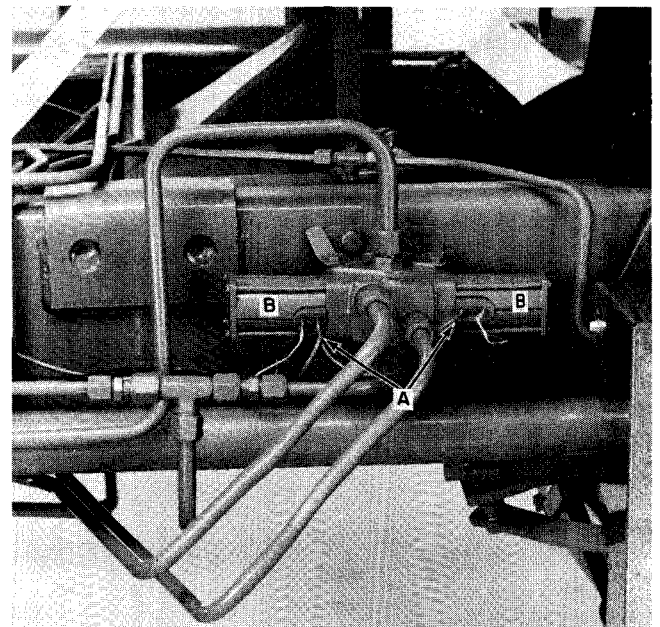

FIGURE 2-6
11. Replace the ground wire, A, Figure 2-6, with the new wire assembly. Route the wire along the wire harness to the right frame channel. Connect the #9619981 wire assembly to that wire and route the wire into the right console. Fasten the wires to the harness with the plastic ties provided.
14. Replace the two second table solenoids (9V), B, Figure 2-6, with the new 12-volt solenoids provided (Racine hydraulics).